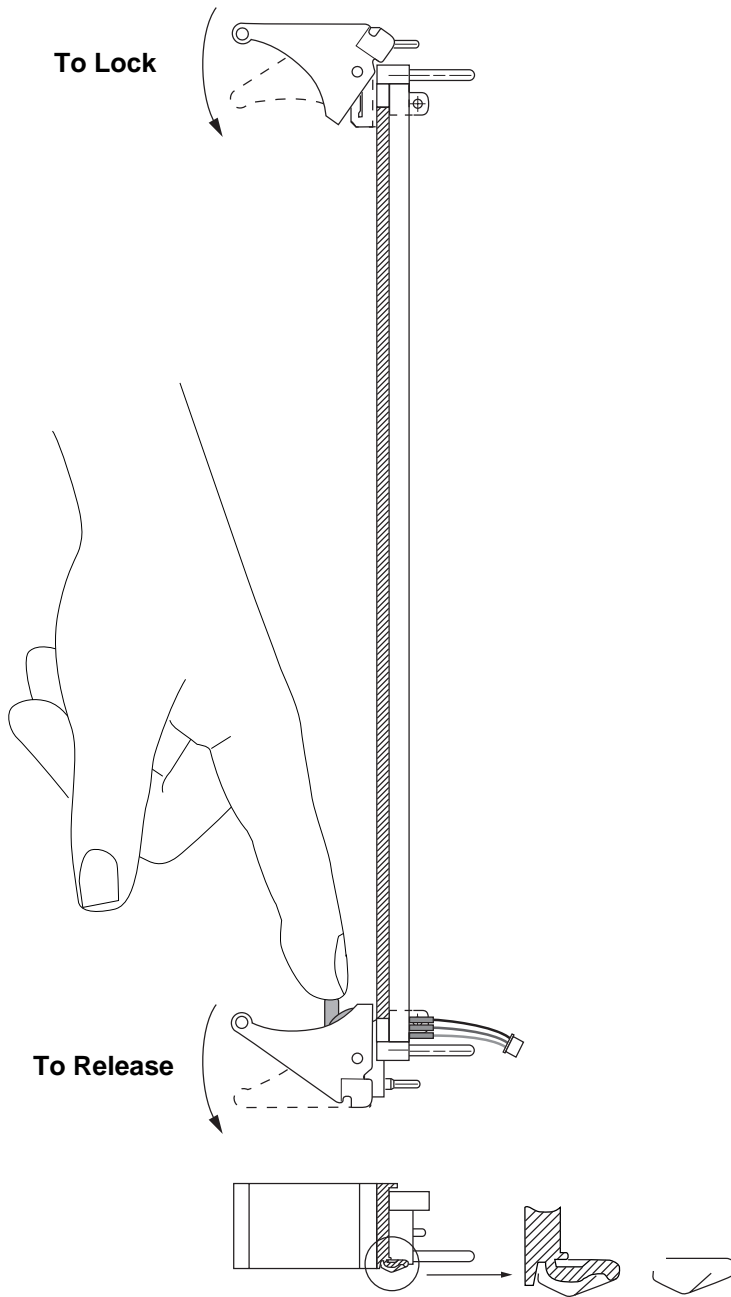

FIGURE 5-9 Releasing and Locking the Netra CP2040 Injector/Ejector Handles
- 3. Slide the new IO board into the top and bottom mounting rails in the same slot into the backplane while gently keeping the board handles in open position. Once the board is all the way in, lock the ejector handles (see Figure 5-9). The blue LED will be lit once the board makes a complete contact with the backplane. The LED will go Off shortly after the ejector handles are closed, if the hardware initialization of the board is successful. Otherwise, it will remain On, indicating that the board has to be replaced.**
4. Slide the new IO board into the top and bottom mounting rails in the same slot into the backplane while gently keeping the board handles in open position. Once the board is all the way in, lock the ejector handles (see Figure 5-9). The blue LED will be lit once the board makes a complete contact with the backplane. The LED will go Off shortly after the ejector handles are closed, if the hardware initialization of the board is successful. Otherwise, it will remain On, indicating that the board has to be replaced.